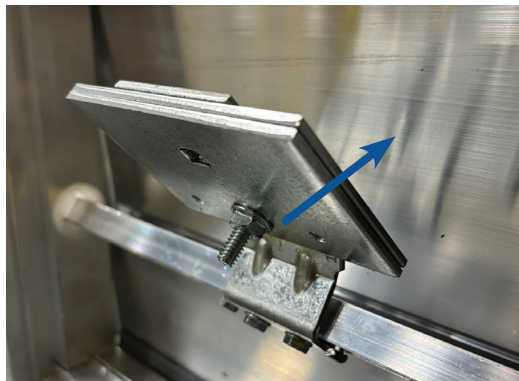

Figure 4: Bending counterbalance to reduce angle
- With the damper blades in the closed position, reduce the bend of the bracket by pushing the weight stack toward the damper head (top) slowly and in small increments (see Figure 4). The counter balance bracket is designed to be bent by hand. (see Figure 2)
- With the damper blades in the closed position, reduce the bend of the bracket by pushing the weight stack toward the damper head (top) slowly and in small increments (see Figure 4). The counter balance bracket is designed to be bent by hand (see Figure 2)